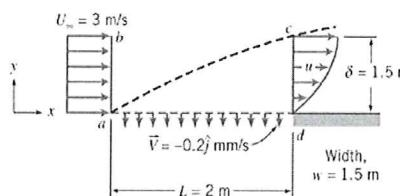

Figure 2
- Consider steady incompressible flow of air in a boundary layer on the length of the porous plate as shown in figure 2. Assume that the boundary layer at the downstream end of the surface has an approximate velocity profile (i.e. at section *cd*) of: $\frac{u}{U_\infty} = 2\left(\frac{y}{\delta}\right) - \left(\frac{y}{\delta}\right)^2$.